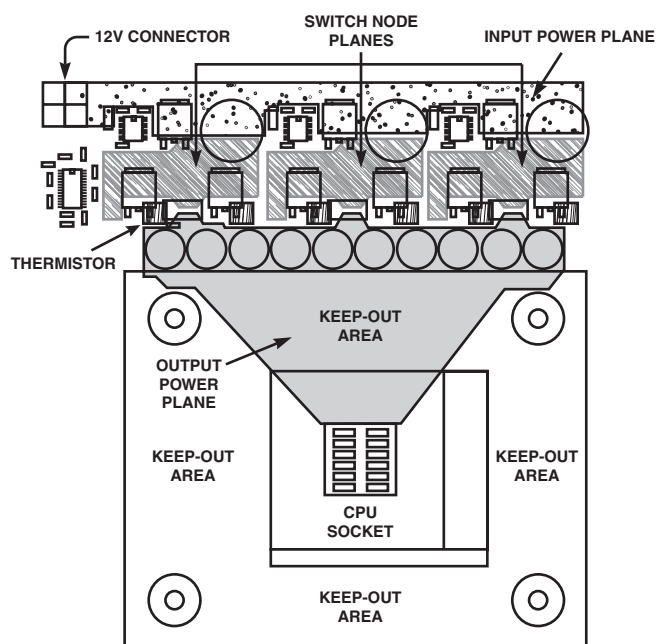

Figure 11. Layout Recommendations
The following guidelines are recommended for optimal performance of a switching regulator in a PC system. Key layout issues are illustrated in Figure 11.
- The components around the ADP3180 should be located close to the controller with short traces. The most important traces to keep short and away from other traces are the FB and CSSUM pins. Refer to Figure 11 for more details on layout for the CSSUM node.